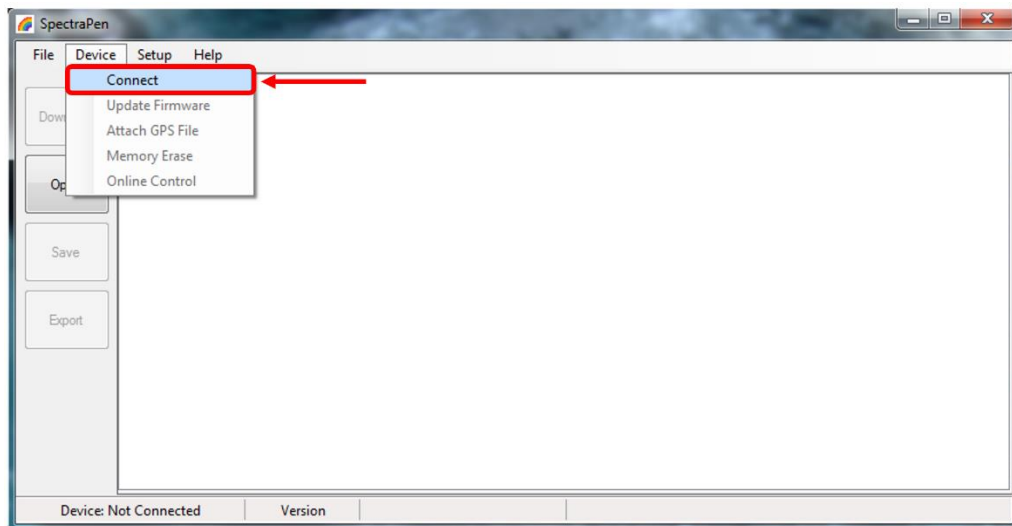

Fig. 25 SW connection.
5. Connect SpectraPen device in SpectraPen software, **Device > Connect** (Fig. 25)